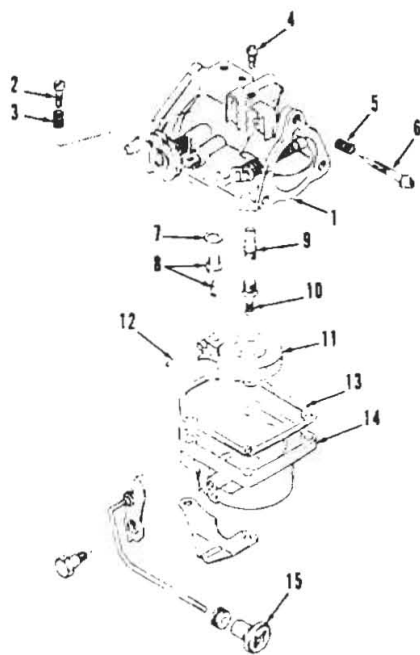

Fig. SZ11-1—Exploded view of Mikuni B32-28 carburetor.
CARBURETOR. A Mikuni B32-28 carburetor is used. Refer to Fig. SZ11-1 for exploded view. Initial setting of pilot air screw (6) from a lightly seated position should be $1\frac{1}{4}$ to $1\frac{3}{4}$ turns open on models prior to 1987 and $1\frac{1}{2}$ to 2 turns open on models after 1986. Final carburetor adjustment should be made with engine at normal operating temperature and running in forward gear. Adjust idle speed screw (2) so engine idles at approximately 650-700 rpm. Adjust pilot air screw so engine idles smoothly and will accelerate cleanly without hesitation. If necessary, readjust idle speed screw to obtain 650-700 rpm idle speed.